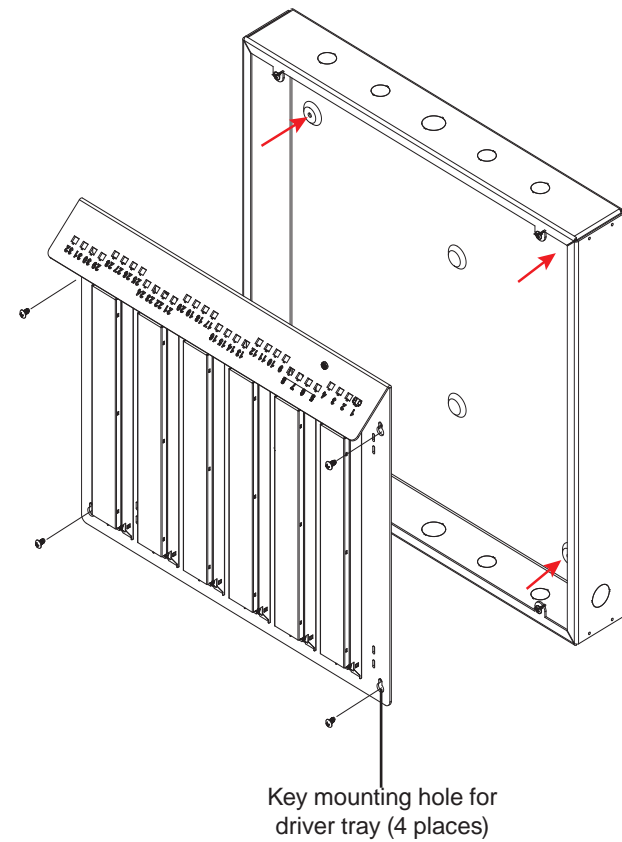

**Figure 12**
**Wiring Detail - Assuming MAX 24 Channels (Figure 12).**